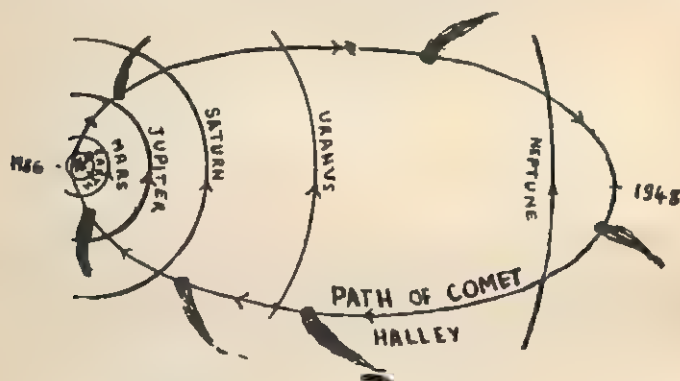

Fig. 7.1. Path of the Comet Halley. It may be seen from earth in 1986.
(5) **Comets**. Sometimes a star with a long tail is also observed in the sky. It is the **Comet**. The appearance of a comet has been considered as the sign of ill-omen. However, it is a harmless object. Most of its part is in the gaseous state. The matter contained in it is so diffused that entire of it can be packed in a suit-case. It revolves round the sun along a highly eccentric elliptical **Orbit**. The head of the comet is always towards the **Sun** and its tail is always directed away from the **Sun**. In certain cases the tail is as long as 3 to 4 miles. The orbit of a well known comet i.e., **Halley** is shown in Fig. 7.1.
of large eccentricity to be drawn, the length of the loop should be small and the distance between the two pins should be large as shown in Fig. 7.3(b). The elliptical orbits of planets are nearly circular but the orbit of a **Comet** is highly elliptical, differing very much from the shape of a circle as shown in Fig. 7.1. The maximum and the minimum diameters of earth's elliptical orbit are nearly in the ratio of 101 : 100.